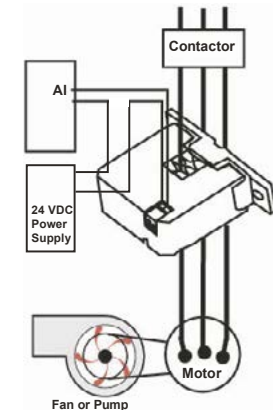

Figure 2: CTCGA420NN
- Reconnect the power conductor cable (For wiring example, see Figure 2.)